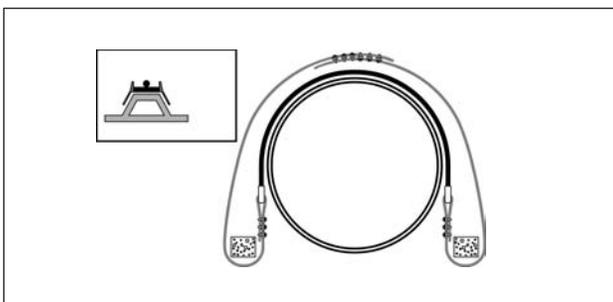
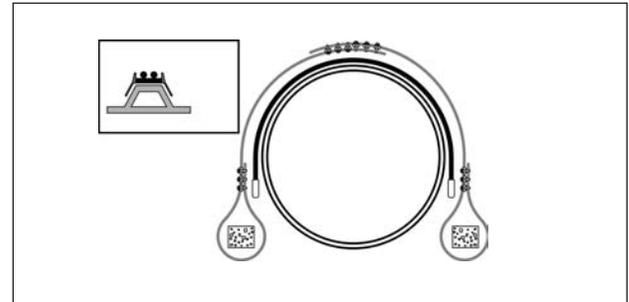

FIGURE 7-7
FIGURE 7-8
7.7.1.2. The H-shaped positioning clips around the strap are designed to accommodate the wire rope on top of the strap as shown in FIGURE 7-7 and FIGURE 7-8.
7.7.1.3. The following method is shown in FIGURE 7-7:
7.7.1.4. The following method is shown in FIGURE 7-8: